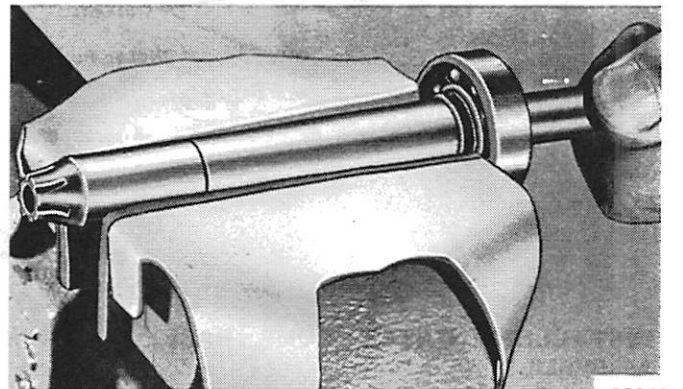

Figure 5. Removing Drive Shaft Ball Bearing
7. Ball bearing can be removed from drive shaft by placing against open vise jaws and tapping on splined end of drive shaft with mallet. (Figure 5)